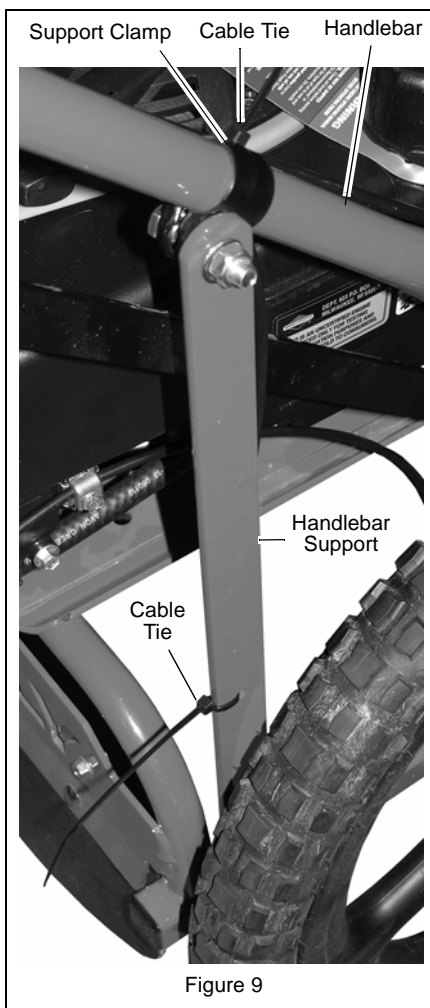

Figure 9
10. Install two cable ties to secure the OPC and throttle cables. See Figure 9.